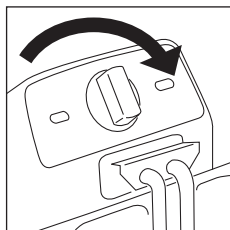

fig. 6
- Move the thermostat dial (see fig. 6) to the required temperature (see cooking table), the oil temperature light (green) comes off.